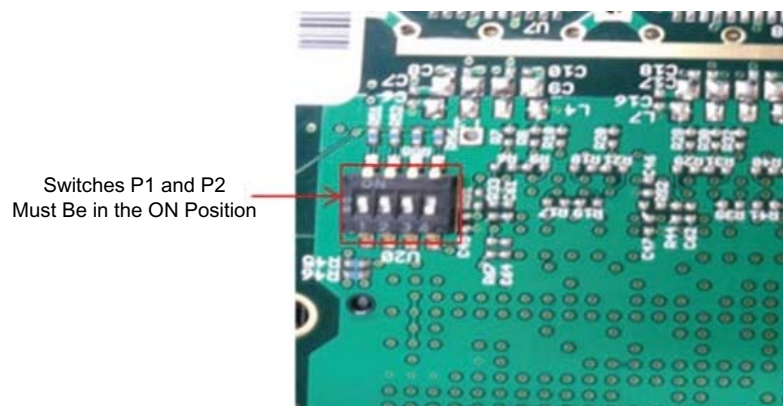

Figure 6: FMC Card Switch Position
4. Ensure that switches P1 and P2 on the FMC card are in the on position as shown in Figure 6.